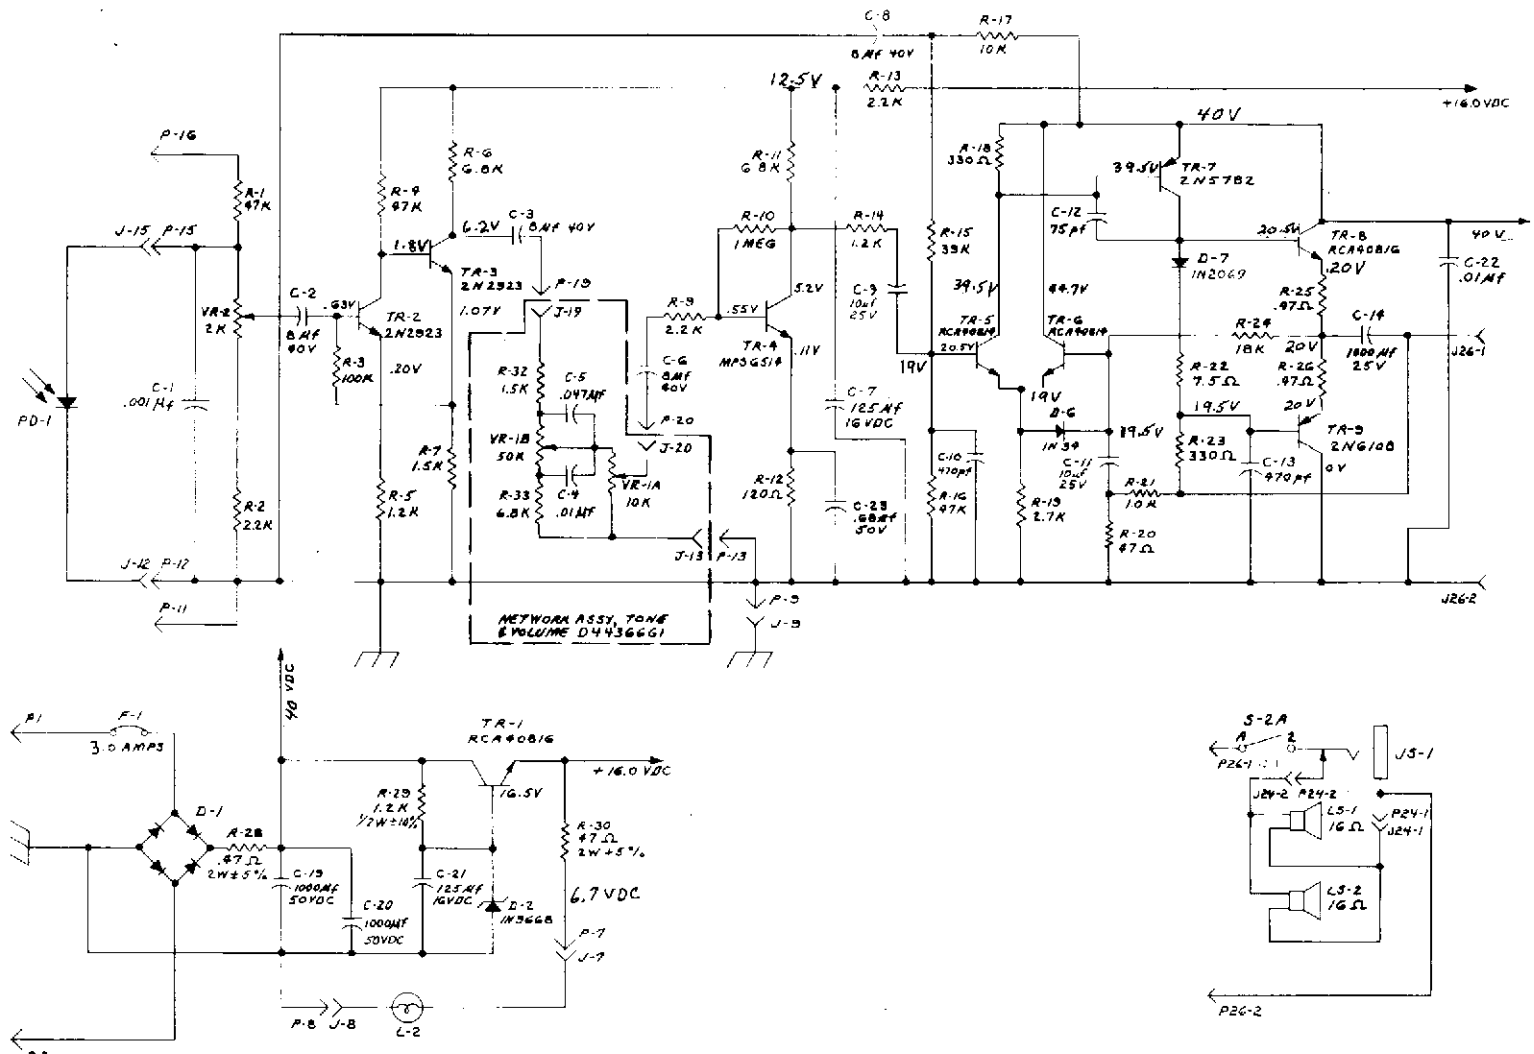

Figure 1-14. AMPLIFIER SCHEMATIC DIAGRAM
**AUDIO AMPLIFIERS.** The audio amplifiers used in all 1000 Series projectors are basic audio amplifiers and need very little explanation. For the purpose of our brief discussion, we will refer to the 43477G6 amplifier. (Figure 1-14).